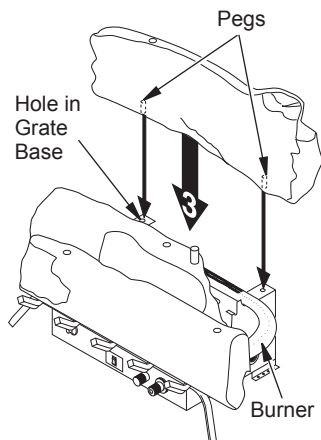

Figure 25 - Installing Rear Log (#3)
3. Locate pegs on the bottom of back log (#3). Slide these pegs into the holes in the grate base behind the burner (see Figure 25).